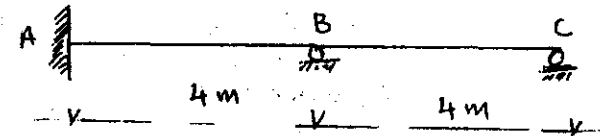

Fig.4
b) For the beam ABC shown below in Fig.4, obtain the equation of influence line diagram for bending moment at A and B.